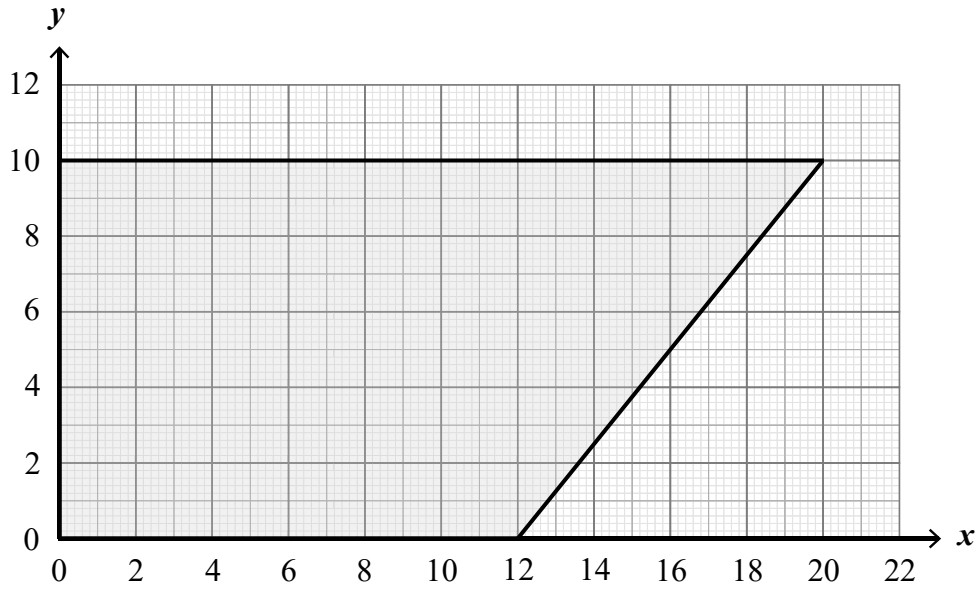

Fig. 1
- 1 Fig. 1 shows a steel plate aligned within a Cartesian coordinate system (x, y). Units for both x and y values are centimetres (cm).